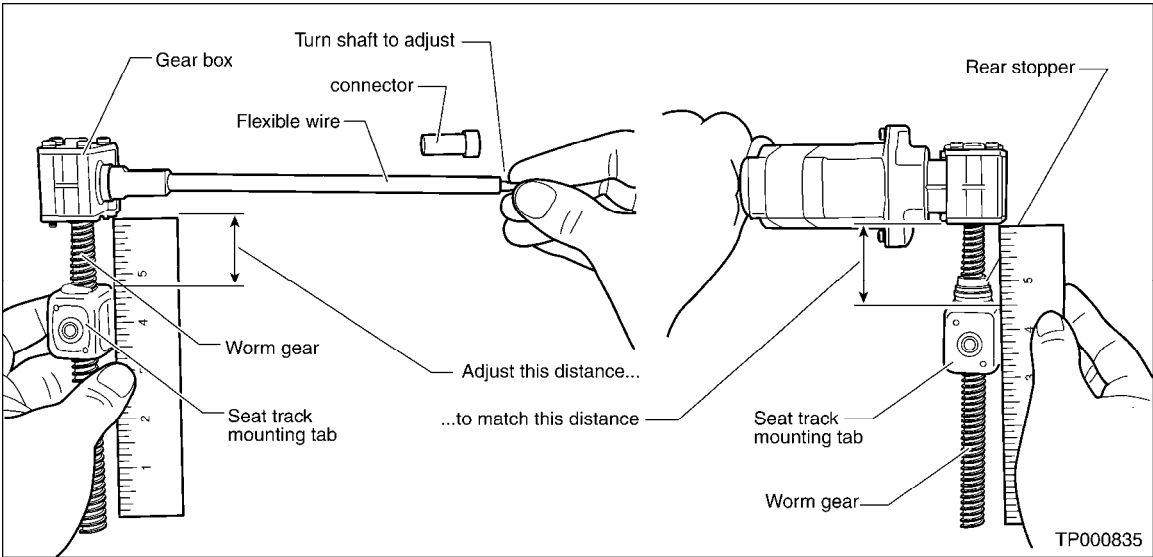

Figure 9
18. Make sure the new seat track mounting tab is touching the rear stopper, with the threaded shaft facing up (see Figure 9).
- Measure the distance between the gear box and the mounting tab (see Figure 9).
- Measure and adjust the other seat track mounting tab to the same distance (see Figure 9).